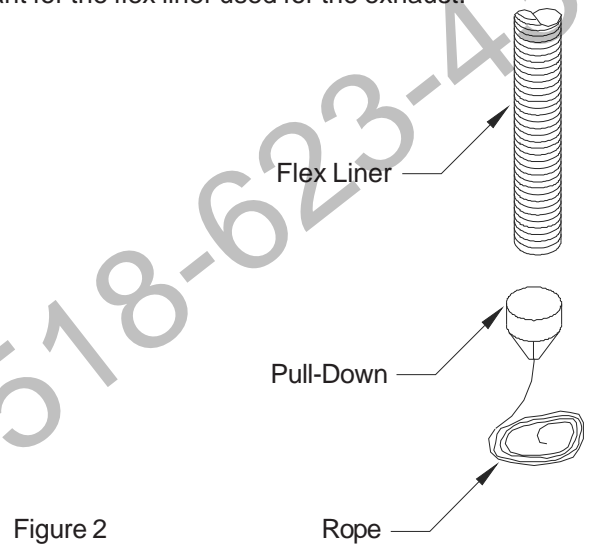

Figure 2
4. Insert a rope through the end of the Pull-Down and tie a knot at the end of the rope. Attach the Pull-Down to the Flex Liner using four sheet metal screws as shown (Figure 2). Carefully feed the liner down the chimney (Figure 3) one at a time (masonry or zero clearance) and out through the damper. Be careful when passing through the damper not to damage the flex liner. One person should feed the liner through the chimney, and another person should pull the liner from the bottom, using the rope to guide the liner through to the chimney bottom. **Note:** If additional lengths of Flex Liner are needed to span the chimney height, use a Flex Coupler to connect the pieces of Flex Liner together. Connect the flex to the coupler by using four sheet metal screws for each side (see Figure 4). Apply high temperature sealant for the flex liner used for the exhaust.